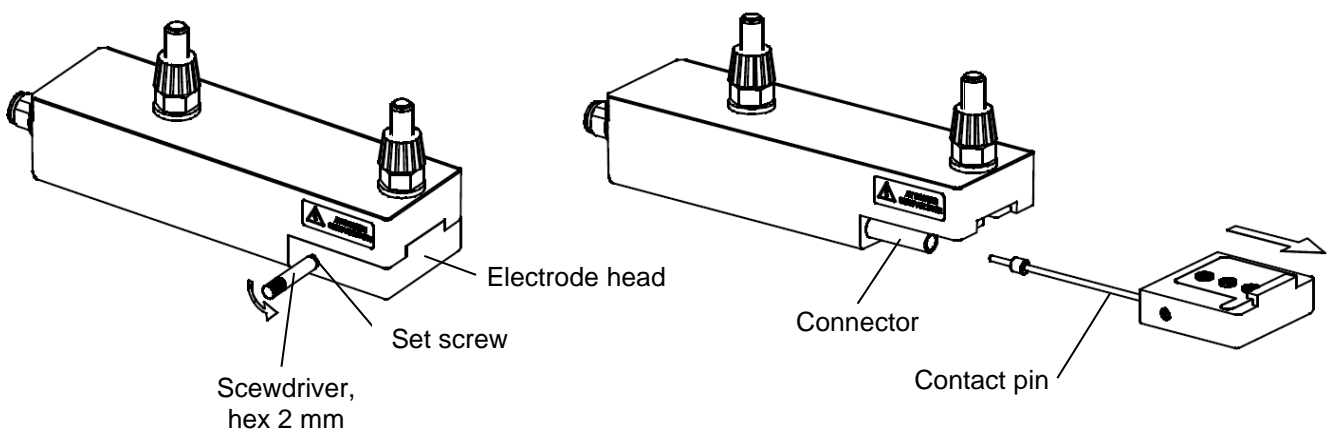

Figure 6, replacing the standard lower electrode head
- 2 Slide the electrode head off the *Perfomaster* (see figure 6).